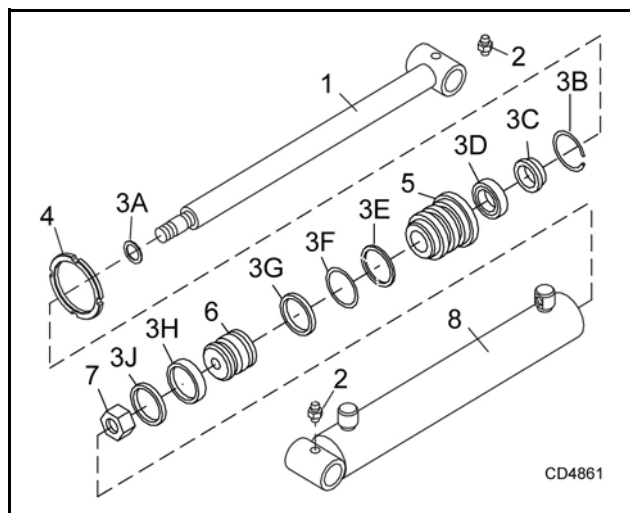
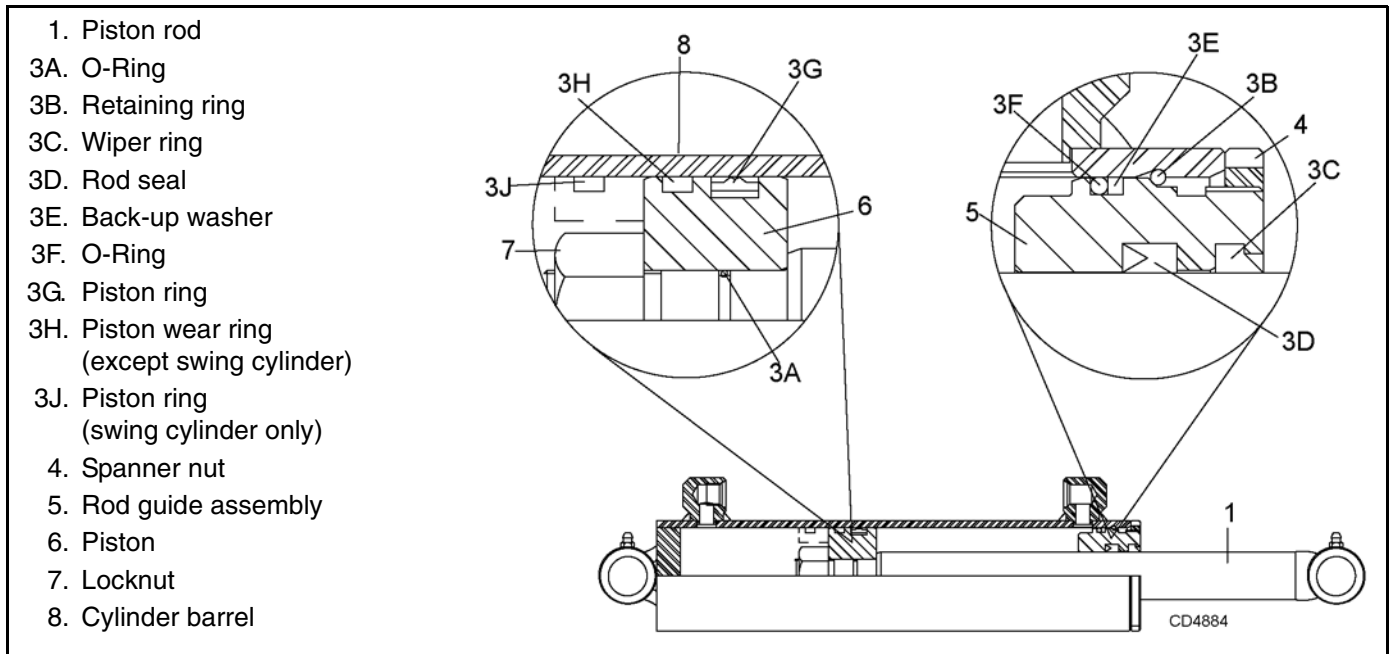

Figure 15. Spanner Nut Cylinder Assembly
Figure 16. Spanner Nut Cylinder Assembly
Refer to Figure 15 and Figure 16.
On threaded guide type cylinders, Figure 16, remove set screw (4), unscrew guide (5) using a spanner wrench, or carefully use a punch and hammer. Pull on rod (1) to remove parts from barrel.